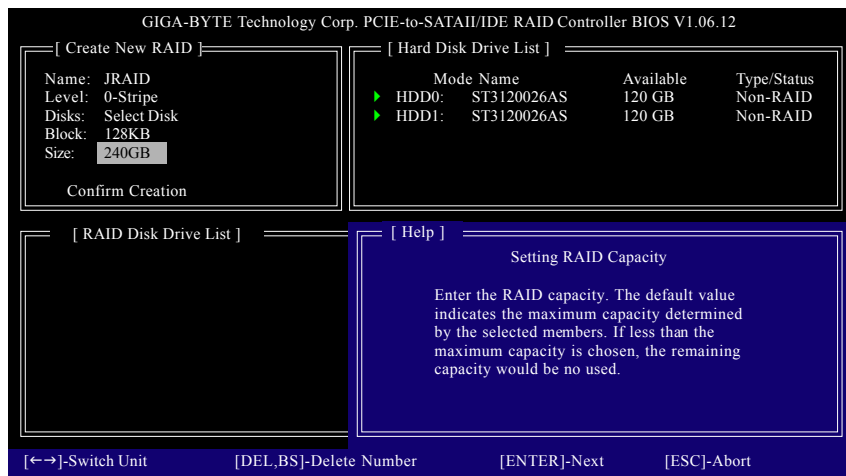

Figure 8
- 5. Set Array Size:** Under the **Size** item, type the size of the array (Figure 8), and press ENTER.